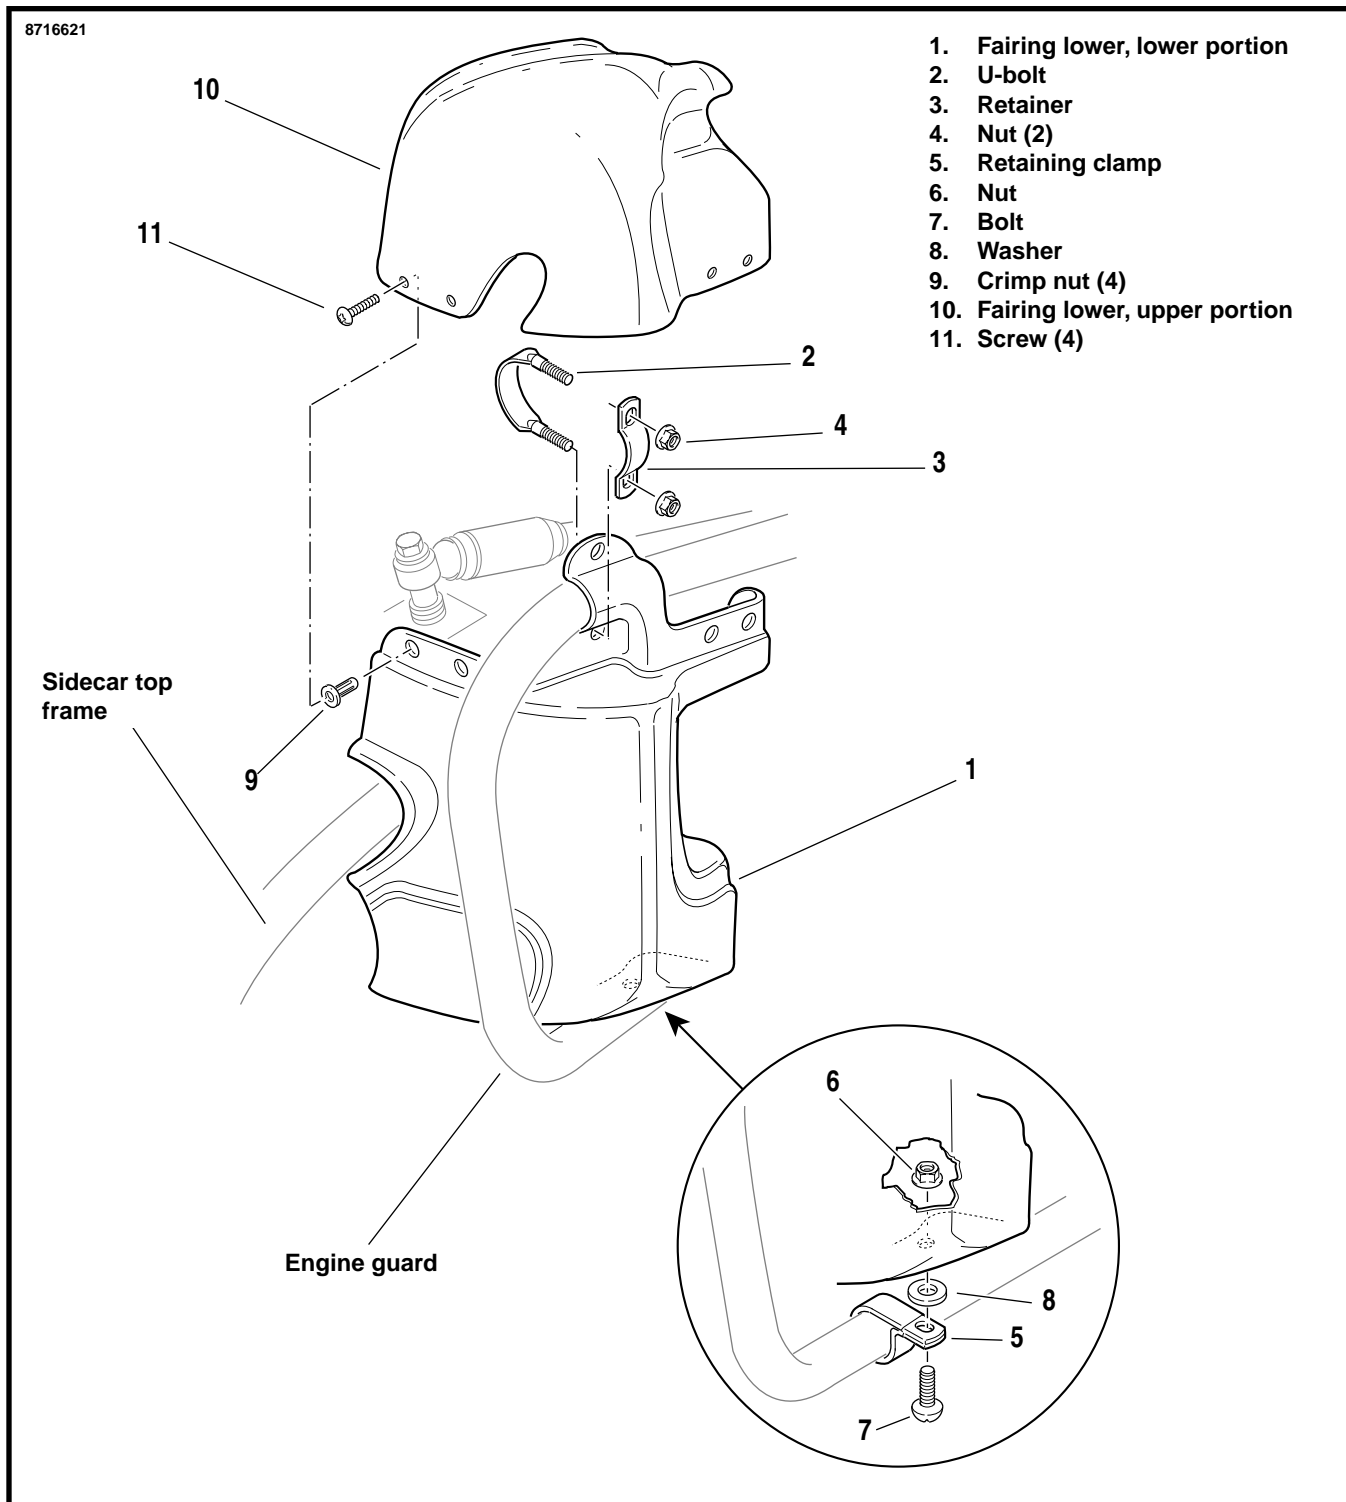

Figure 23. FLHTC Sidecar Fairing Lower
1. See Figure 23. Place the lower portion of the fairing lower (1) in position and install the U-bolt (2), retainer (3) and nuts (4).
2. Place the retaining clamp (5) on the engine guard and install the nut (6), bolt (7) and washer (8).
3. Slip the crimp nuts (9) into the holes provided in the lower portion (1).
4. Place the upper portion (10) of the fairing lower onto the lower portion. Align the holes with the crimp nuts (9) and install the screws (11).